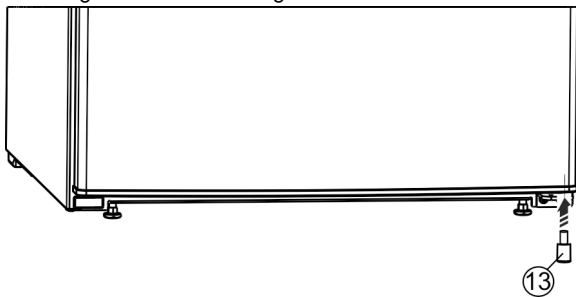

Fig. 25 *
- Insert the spacer Fig. 25 (13) back under the right-hand side of the door, as it is important for the stability of the appliance.*